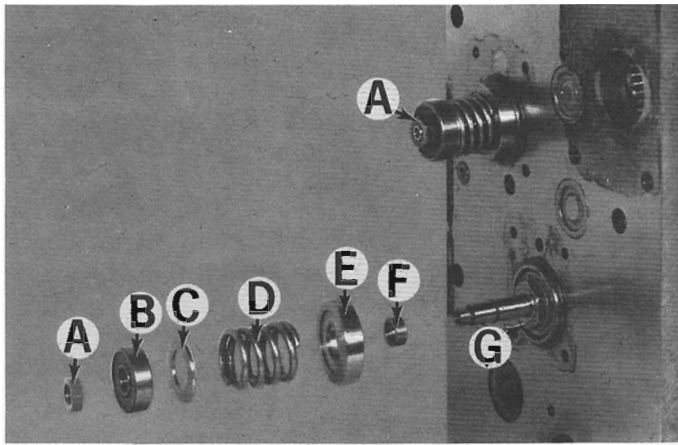
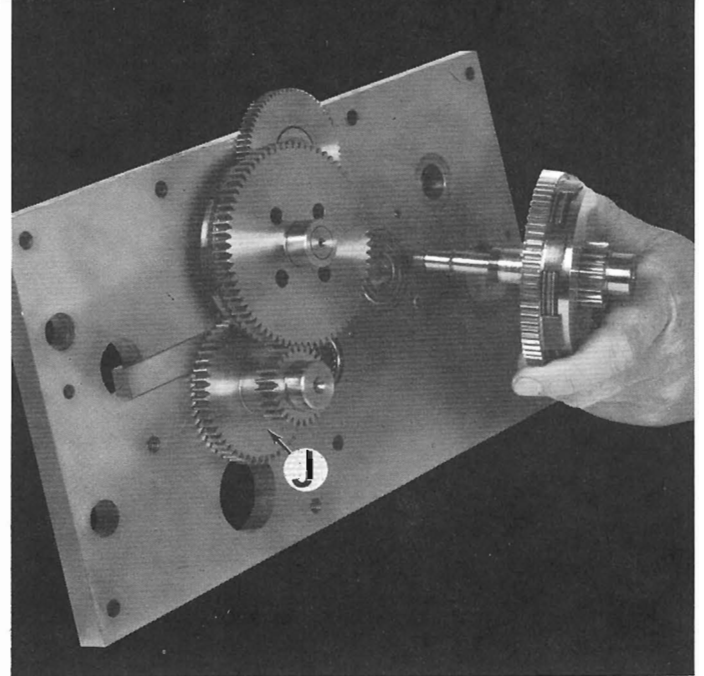

Figure 113 — Power Feed Clutch Components
Figure 114 — Power Feed Clutch Removal
- (A). Remove nut "A", Figure 113. **CAUTION:** spring is under tension. **NOTE:** Clutch parts are identical on front side of cover.
- (B). Remove bearing "B", washer "C", spring "D", spring seat "E", and spacer "F".
- (C). Remove nut "G" to remove clutch assembly, Figure 114.
- 12. Remove intermediate gears "J", Figure 114, and "K", Figure 116.
5. Replace intermediate gears "J", Figure 114 and "K", Figure 116.
6. Replace clutch assemblies and nuts "G", Figure 113.
7. Replace spacers "F", Figure 113, spring seats "E", springs "D", washers "C" and bearings "B".
8. Assemble nut "A", Figure 113. Some method of compressing spring until nut can be threaded on flush with post is necessary. Note bracket used in Figure 128.